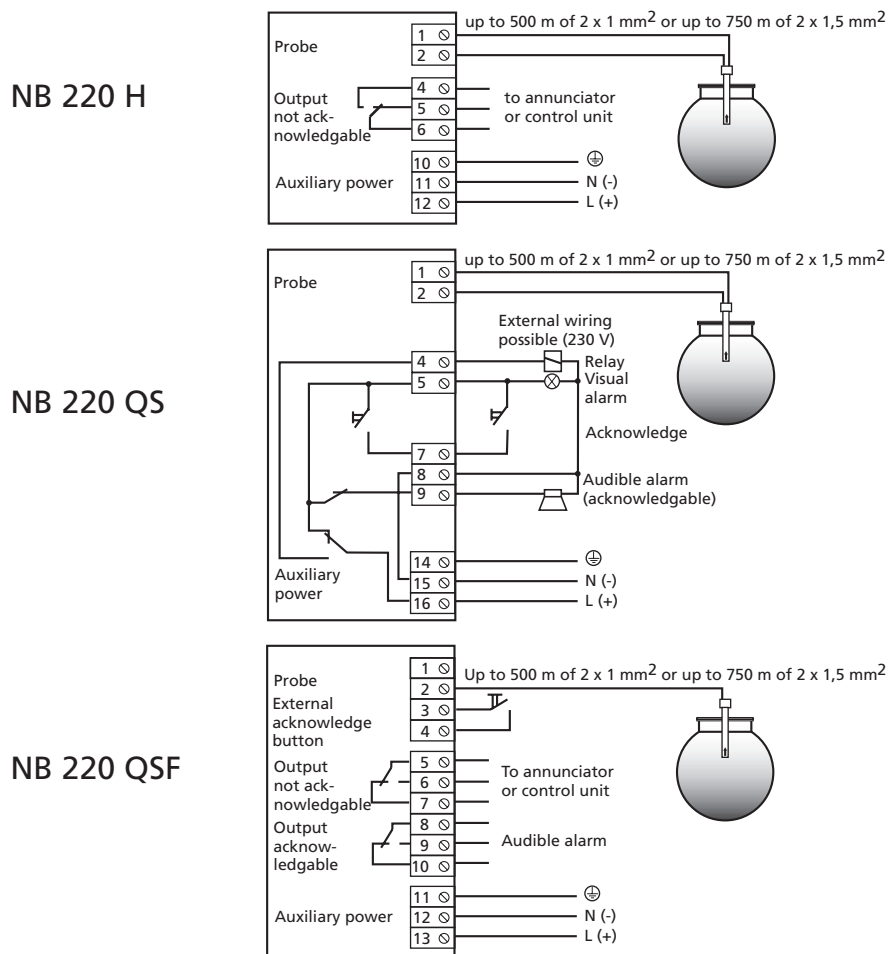

Fig. 5: Wiring diagram – Type NB 220 H, Type NB 220 QS and Type NB 220 QSF transducers
For the connections required to install the respective transducer please refer to the wiring diagrams in Fig. 5.
***On the Type 220 QS transducer external annunciators and control units must be placed between terminals 4 and 8 of the device to monitor the supply of auxiliary power in accordance with the certification rules for overfill protection systems (see Fig. 5).***